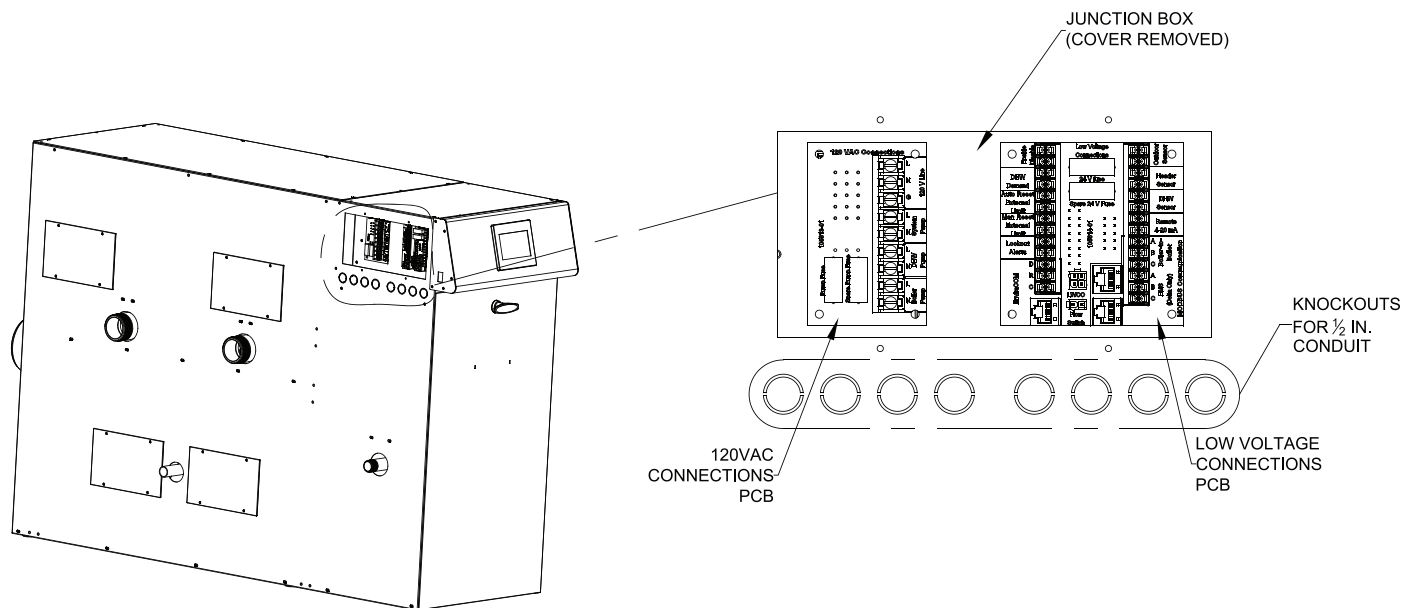

Figure 37: PCB Locations for Field Wiring
- 1. Connect to field wiring** inside the junction box, located on the upper left side of the boiler as shown in Figure 37. Inside the junction box are two printed circuit boards (PCB’s), 120 VAC Connections on the left and Low Voltage Connections on the right.